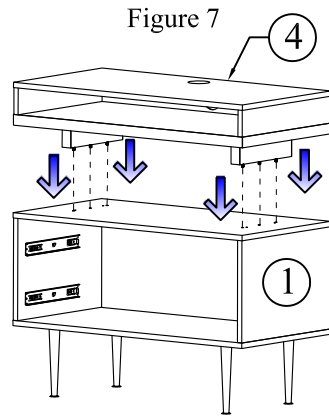

Figure 7
1. Install Two Supports (3 and 4) to the TOP (1) (Fig. 7)